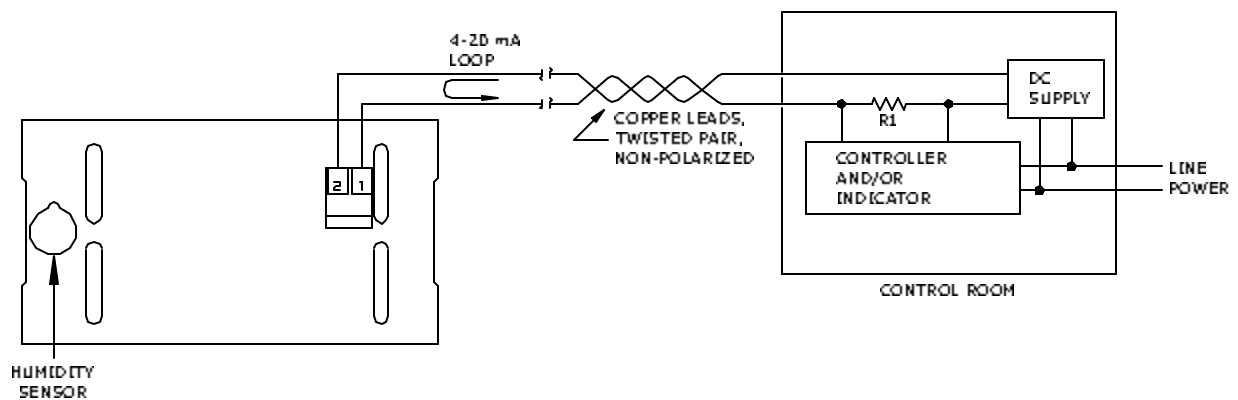

Figure 1
3. Connect power wires to the transmitter by 2 screw terminals located near the edge of the circuit board (Figure 1). Power supply must not exceed 35 VDC.